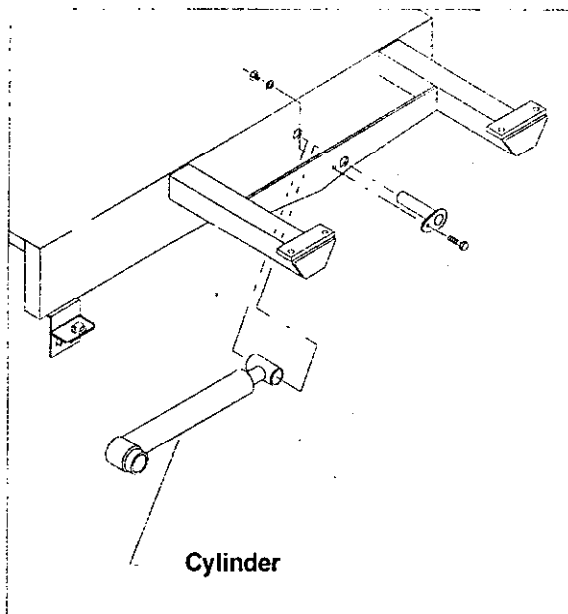

Figure 8
WORKMAN ENGINE OR HYDRAULICS (Fig. 8)
2. Attach the cylinders as shown in Fig. 8. Use the tilt of the cylinders only for service of the engine or hydraulics underneath.